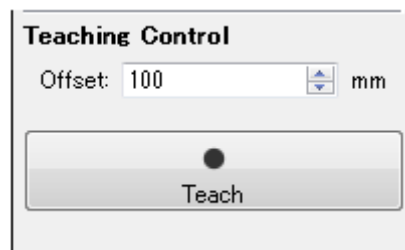

Figure 7-45 Teaching setting
- Click the "Teach" button (Figure 7-45).